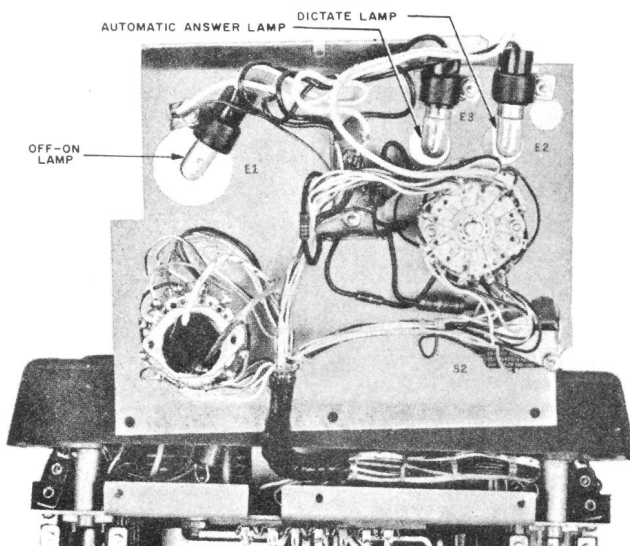

Fig. 8 - Control Panel Indicating Lamps
- 1.11 The control panel indicating lamps are shown in Fig. 8.